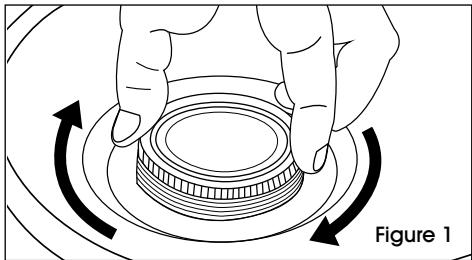

Figure 1
1. Place the screw cap over the opening in the nozzle. Gently rotate the screw cap clockwise until the threads of the cap smoothly engage the threads on the nozzle. (See Figure 1)